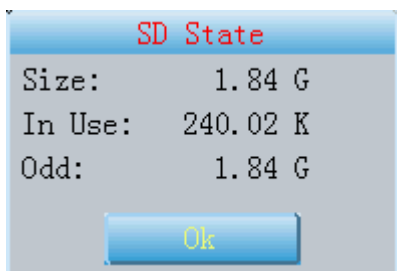

Fig. 13-2-3
- 2  Click this icon to check the state of SD card, as Fig.13-2-3.